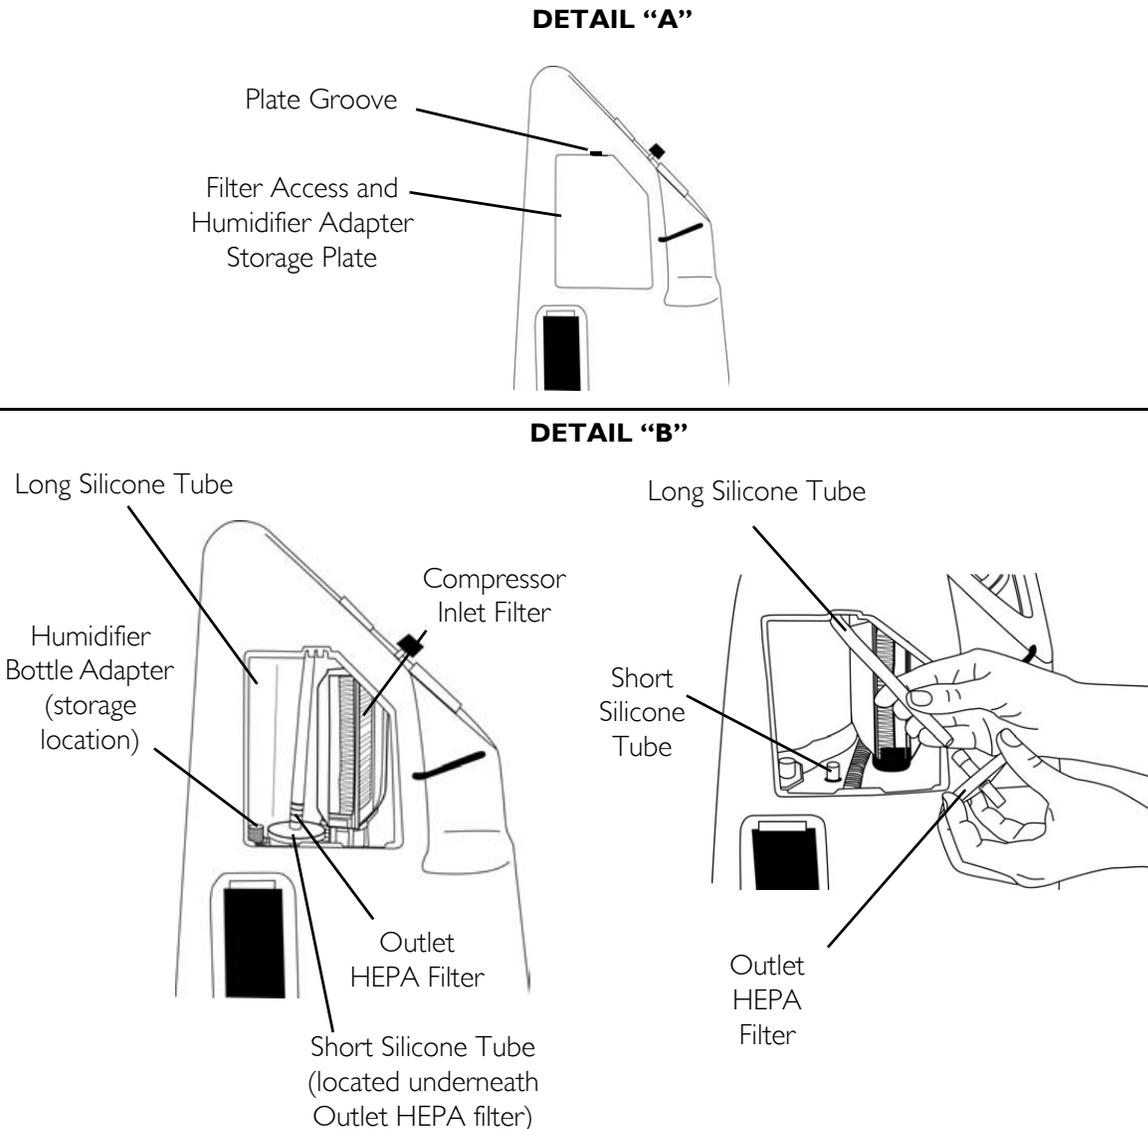
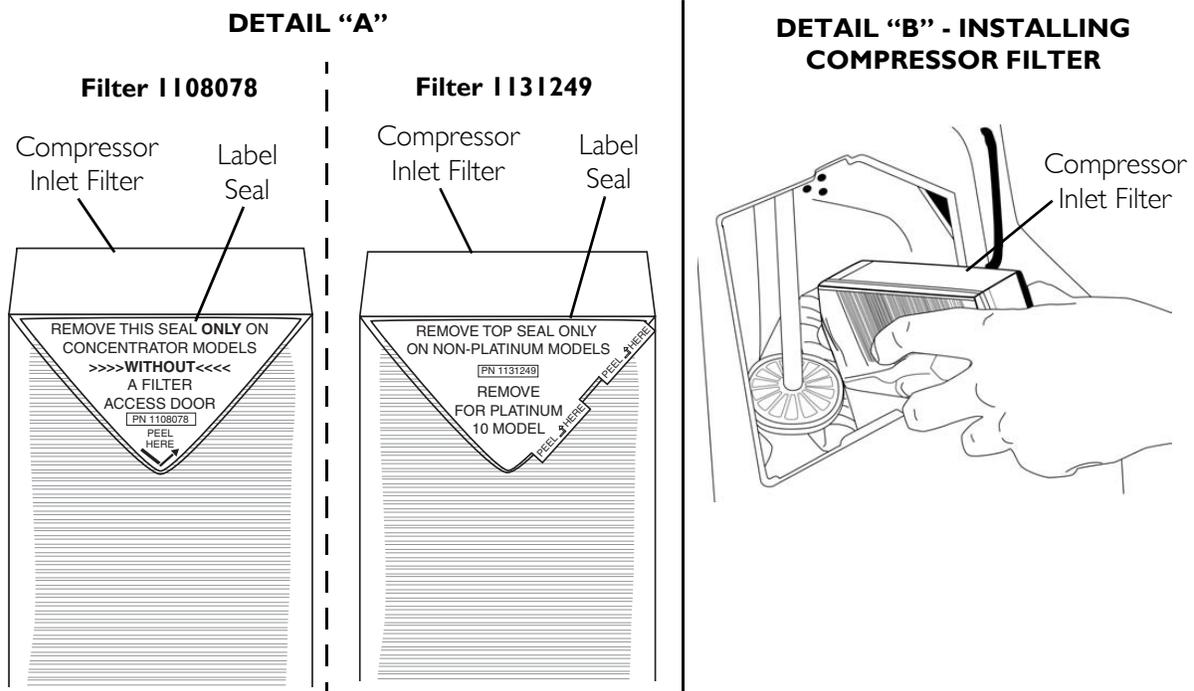

FIGURE 6.2 Replace the Outlet HEPA Filter
FIGURE 6.4 Replacing the Compressor Inlet Filter
NOTE: For this procedure, refer to FIGURE 6.2 on page 29
NOTE: For this procedure, refer to FIGURE 6.2 on page 29.
NOTE: For this procedure, refer to FIGURE 6.2 on page 29 and FIGURE 6.4 on page 31.
3. Insert a flathead screwdriver in the plate groove on the top edge of the plate and gently pry the humidifier adapter storage plate open to remove the plate. Refer to Detail "A" in FIGURE 6.2.
6. Install new compressor inlet filter by inserting the filter opening into the rubber base (Detail "B" of FIGURE 6.4).